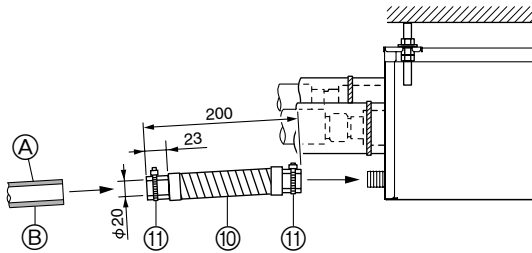

Fig. 8-1
- (1) Apply PVC adhesive (procure locally) to the drain connection on the branch box and push the attached drain hose ⑩ onto the connection as far as it will go. (Fig. 8-1)
- (2) Insert a hard PVC pipe (VP-16, procure locally) into the attached drain hose ⑩ and glue it together and fix it. (Fig. 8-1)
- ④ VP-16 procured locally
- ⑤ Thermal insulation
- (3) Fit a band ⑪ to the attached drain hose ⑩. (Fig. 8-1)